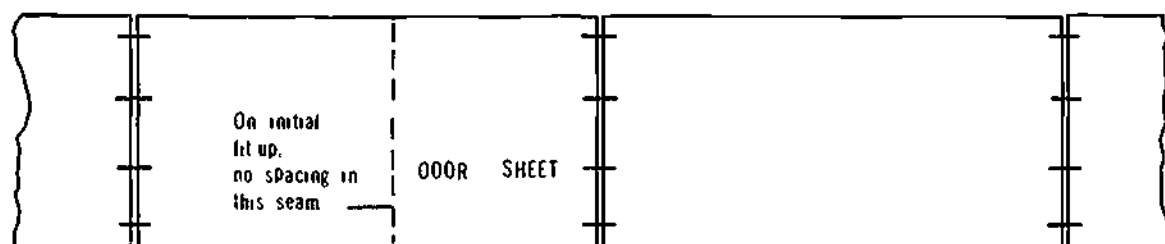

Figure 12-22. Fitting First or Second Ring Door Sheets
**Fitting Up Door Sheets** Since door sheets are part of one plate, an additional vertical seam is made in the ring if a door sheet is installed. This additional seam requires different treatment than the others. Fit up this extra seam **without** spacing, this provides for shrinkage when the vertical seams are welded. If this extra seam is spaced like the balance of the vertical seams, an excessive gap will result when the door sheet is fit up prior to welding in place. The above applies only to the extra seams made by the door sheet. Thus, on the initial fit-up, since there are two vertical seams, one must be fit up with spacers and one without (Figure 12-22).